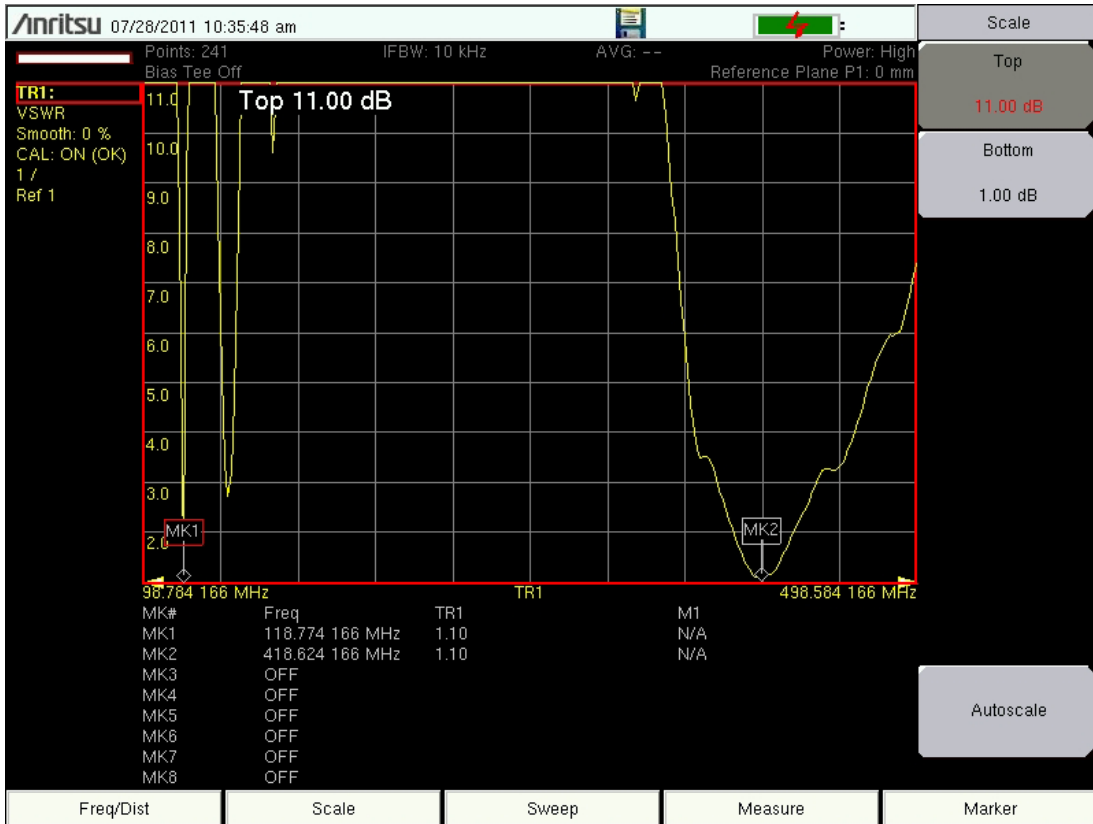

Figure 5-5. Display Type Single – VSWR Measurement
9. Press the **Shift** key, then the **Calibrate** (2) key.
11. When the Calibration is finished, **CAL: ON (OK)** should be displayed with the trace data in the instrument settings summary at the left side of the sweep window, and the trace should be centered around 0 dB when the short or open is connected.
- Press the **Measure** function hard key and select VSWR from the Graph Type Selector list box to view the match in VSWR. **Figure 5-5** is displaying a VSWR measurement and the Measure menu of the Field setting when Display Type is Single. The example in this figure may not match the display on your instrument..